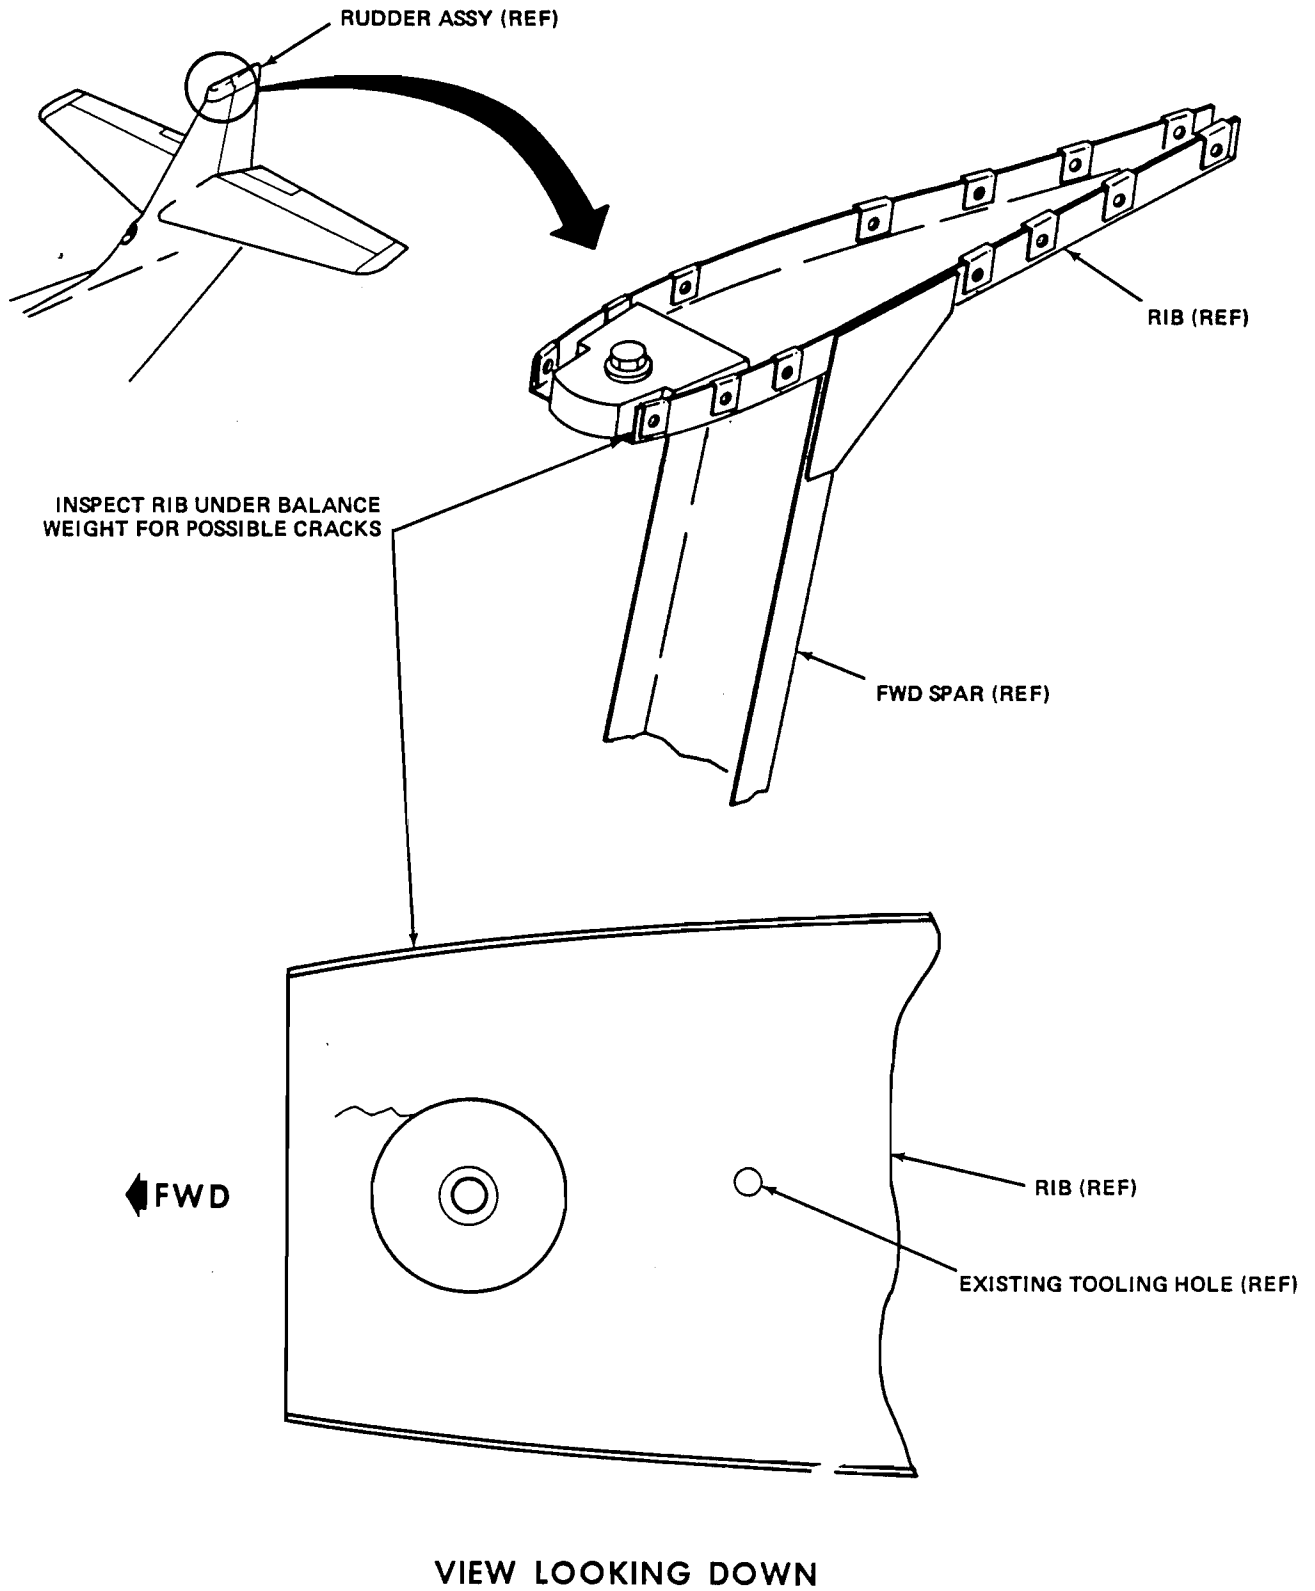

Figure 1.
1. Inspect rudder tip rib in area around balance weight attaching hole to check for cracks (refer to Figure 1).